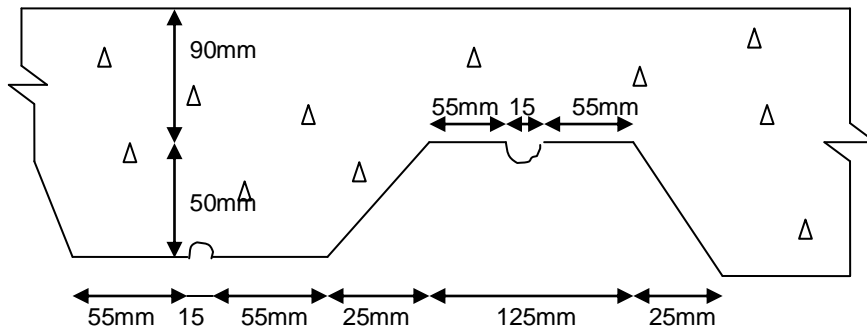

Figure.2
3. Check the adequacy of the continuous composite profile deck slab spanning 2m. The cross section of the profiled sheeting is as shown in figure.2. The live load on the slab is 2kN/m^2 . The slab is propped at the centre during construction stage. Use M30 concrete. Consider the construction load as 0.75kN/m^2